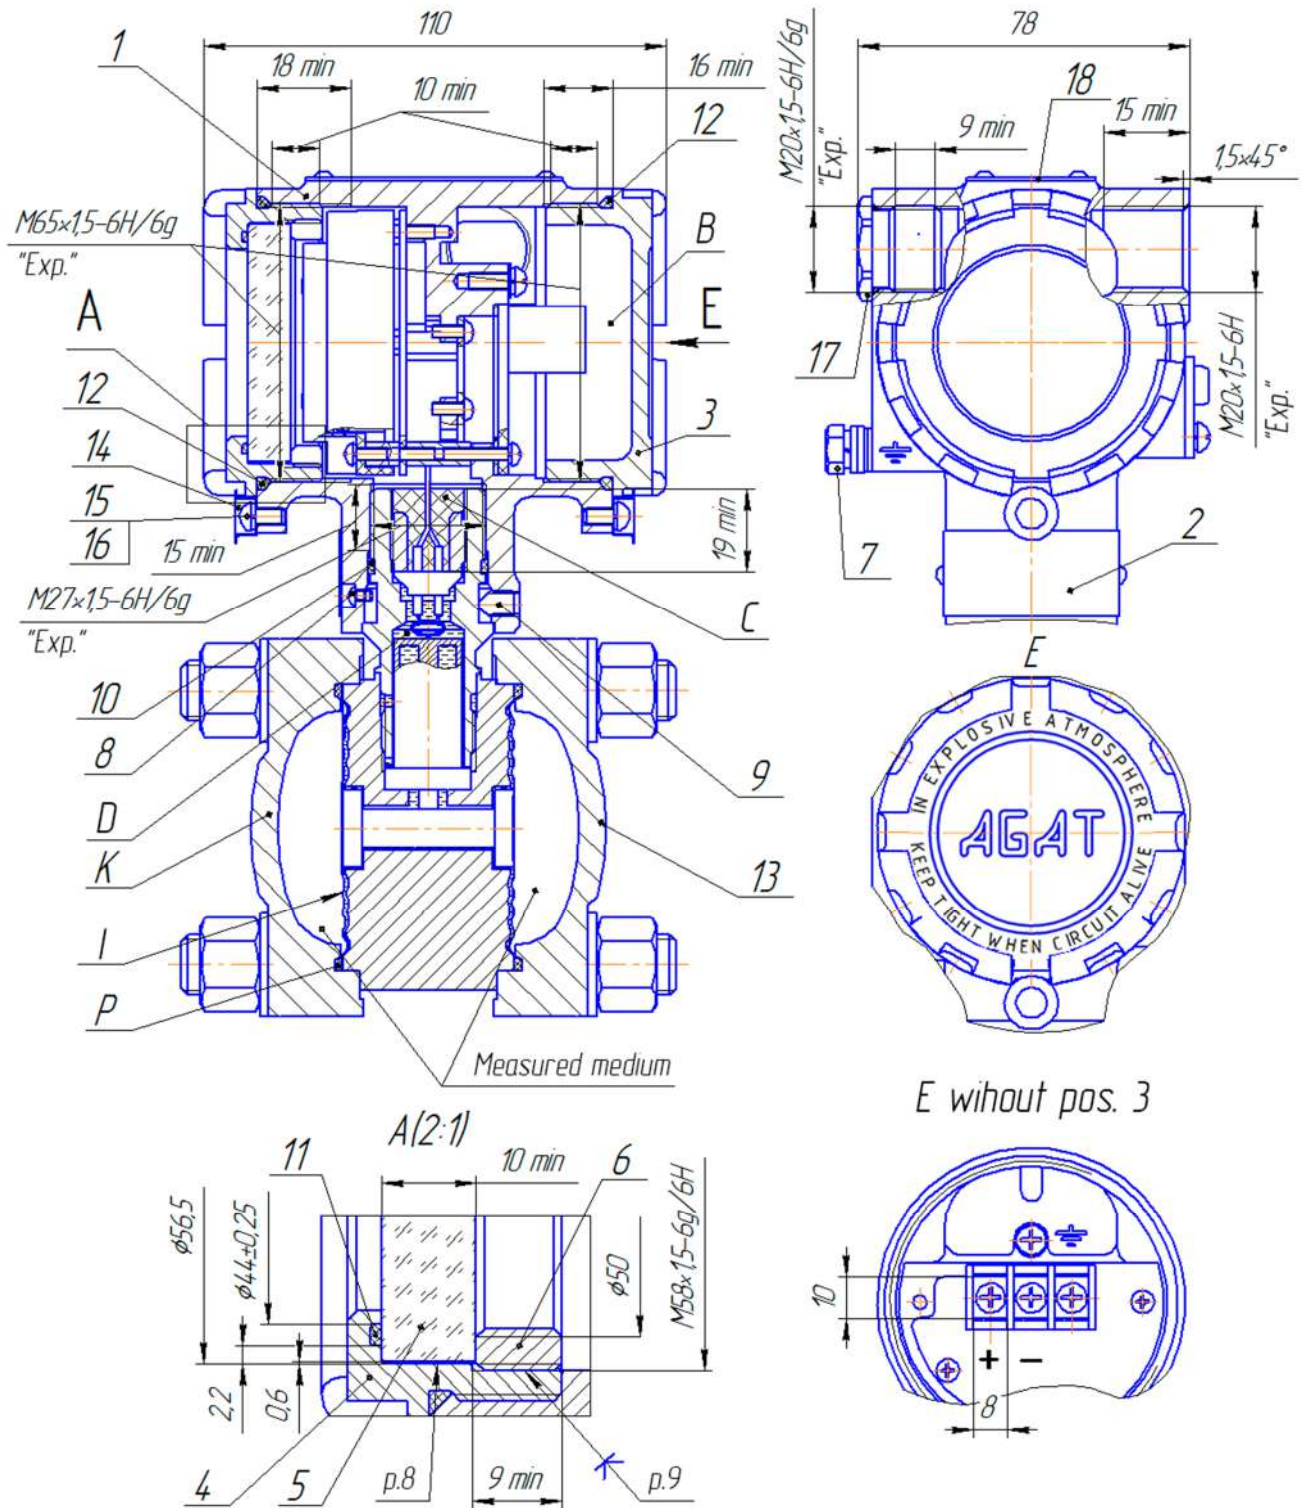

Figure E.1 – For transmitters
The rest see fig. E.1
17 Materials of pressure transmitter parts pos. 13: membrane I (Fig. E.1) - alloy 36NiCrTiAl GOST 10994, housing and strain gauge membrane N (Fig. D.3, D.4) - titanium VT9 GOST 19807, parts K, L, M - steel 12Cr18Ni10Ti GOST5632, O-ring P - group 3 rubber according to GOST 18829.